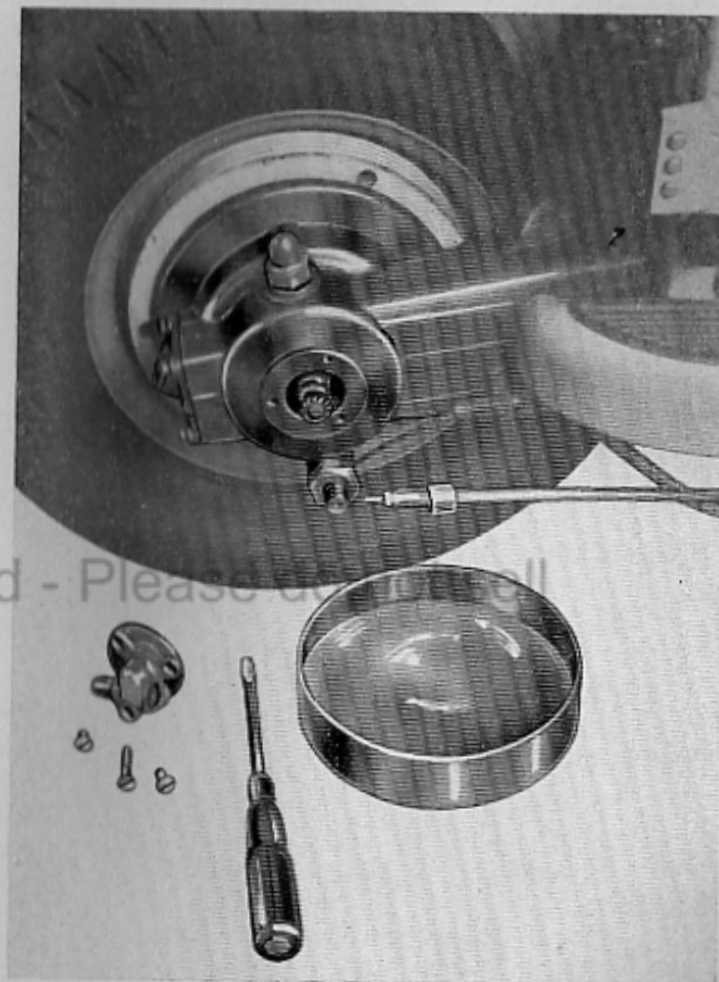

Fig. 38
- (1) Loosen lock ring fixing speedometer cable to bracket on drive box. Draw out end of cable from its seat.
- (2) Place tray under rear of transmission case to collect oil (see fig. 38). Unscrew the three speedometer drive box fixing screws, and remove box from transmission case.